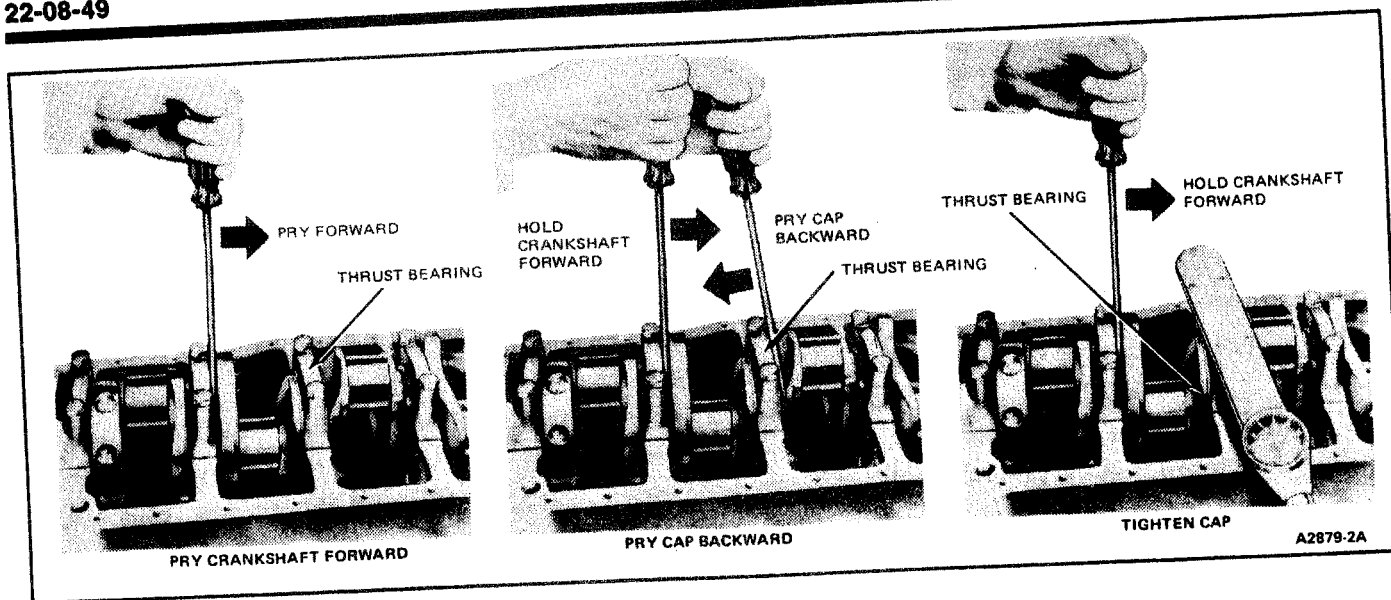

FIG. 67 Aligning Thrust Bearing Cap
14. Pry crankshaft forward against thrust surface of upper half of bearing (Fig. 67).